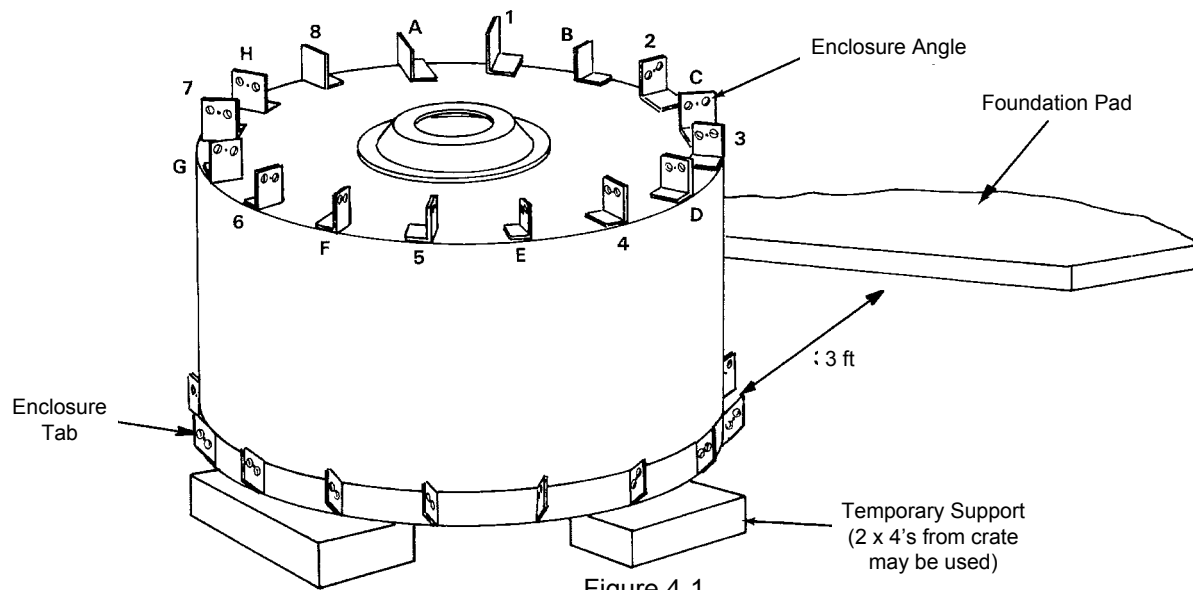

Figure 4-1
4.1 Refer to Figure 4-1. Position 4 temporary supports in center of assembly area in a 4 foot diameter circle. Place enclosure assembly on temporary supports and position as shown. **Note: Enclosure tabs and angle supports are matchmarked according to corresponding structure components and relative mounting position with letter "A" designated as top of reflector assembly and letter "E" designated as bottom of reflector assembly.**